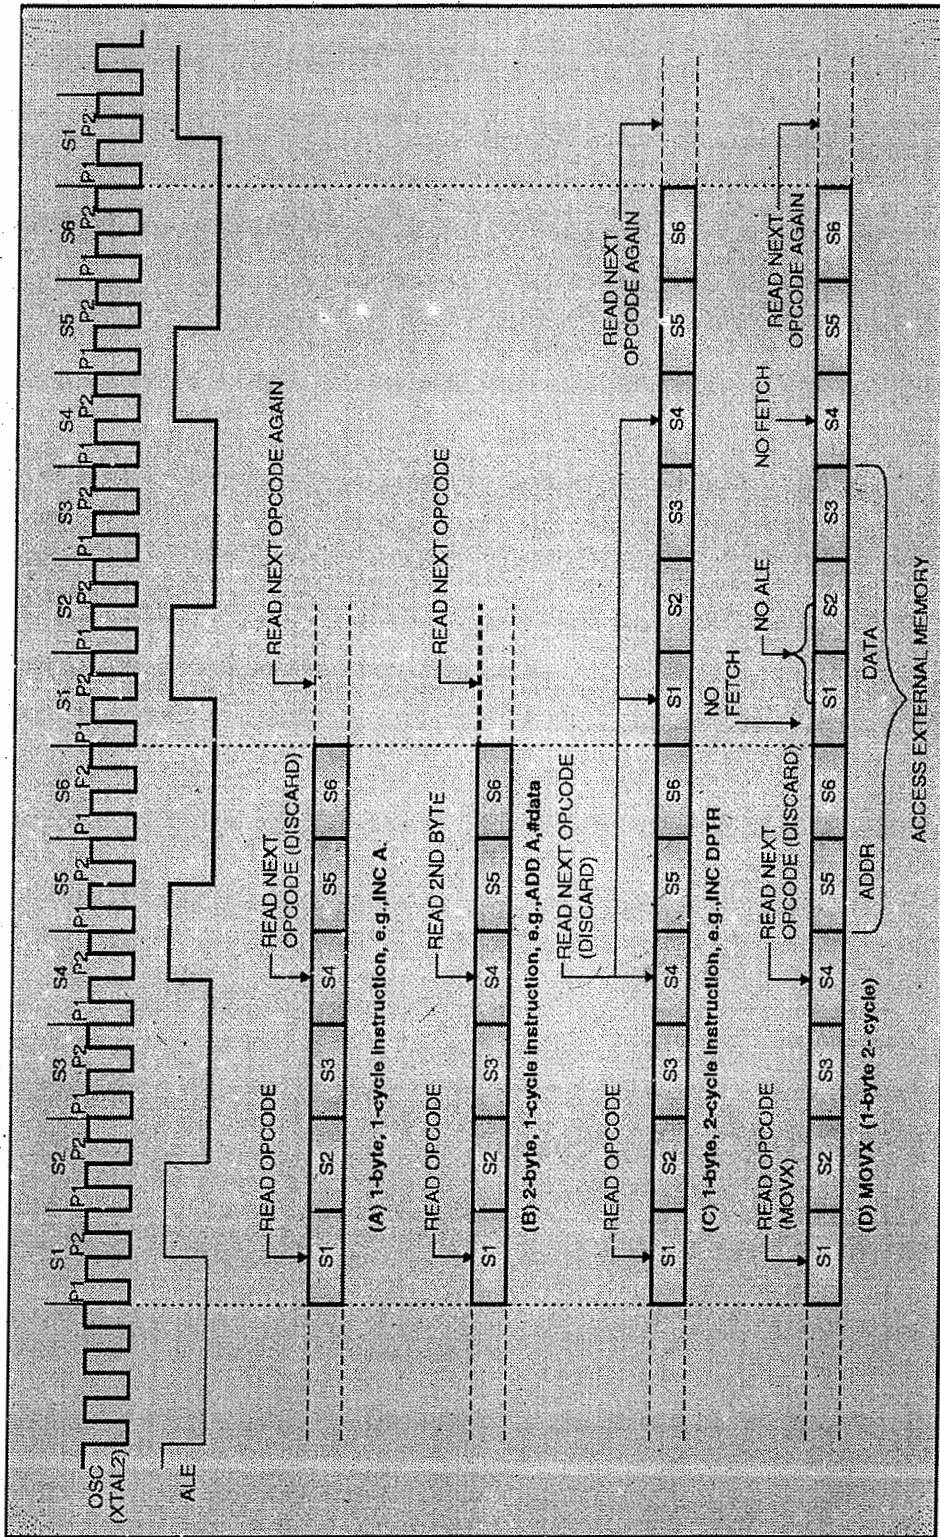

Fig. 1.18.5 : State sequence in MCS-51 device
- Each period lasts for one oscillator period. Typically, arithmetic and logical operations occur during period 1 and register to register transfers occur during period 2. Fig. 1.18.5 shows the fetch 1 execute sequence in states and phases for different instructions.
- In case of one byte two cycle instruction e.g. MOVX. The MOVX instruction accesses external data memory. Two fetches are skipped while the external data memory is being addressed and strobed. Fig. 1.18.5 shows the timing diagram.